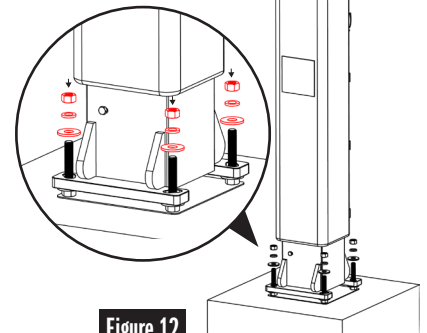

Figure 12
- Secure bolts with (4) Flat Washers, (4) Lock Washers and (4) 5/8" Nuts. See Figure 12.